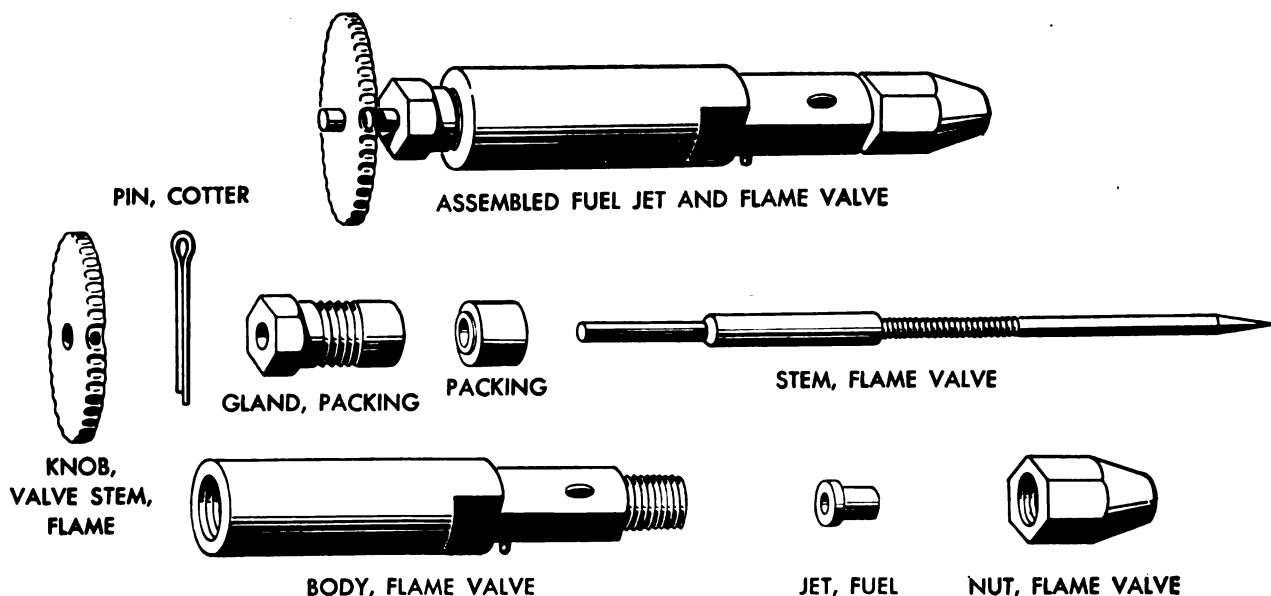

Figure 47. Fuel jet and flame valve assembly, unit, fire, M1937.
(3) *How to clean fuel jet and flame valve stem.* (see fig. 47). (a) After the generator assembly has been removed from the fire unit (see (2) above) pull the flame control valve (see fig. 43) out of the panel.